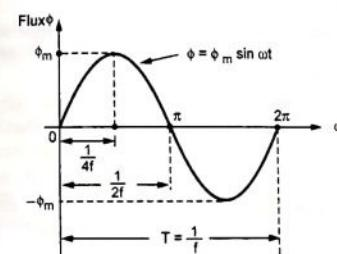

Fig. 5.5.1 Sinusoidal flux
- The primary winding is excited by purely sinusoidal alternating voltage. Hence the flux produced is also sinusoidal in nature having maximum value of  $\phi_m$  as shown in the Fig. 5.5.1.